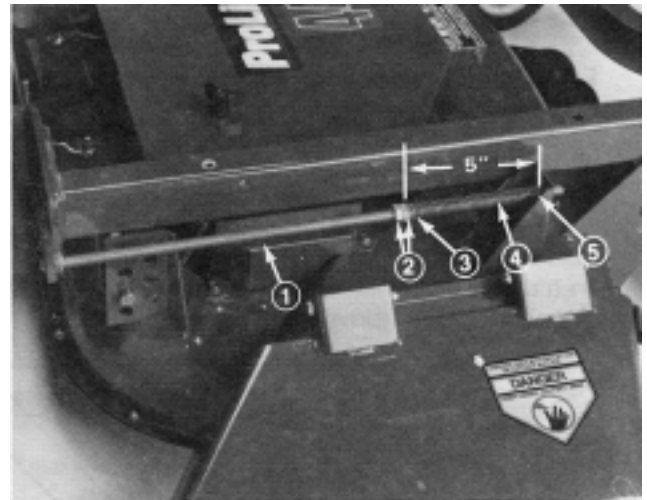

Figure 4
2. Thread two (2) jam nuts on each adjusting shaft approximately 9 in. (Fig. 4).
4. Insert spring end of adjusting shaft into hole in deck mounting bracket and other end into carrier frame mounting tab. Small end of bushing fits into hole in deck bracket (Fig. 4).
5. To tension belt, tighten front jam nut on each adjusting shaft until springs are compressed 5 inches. Measure between washer and bushing (Fig. 4). Secure rear jam nuts.